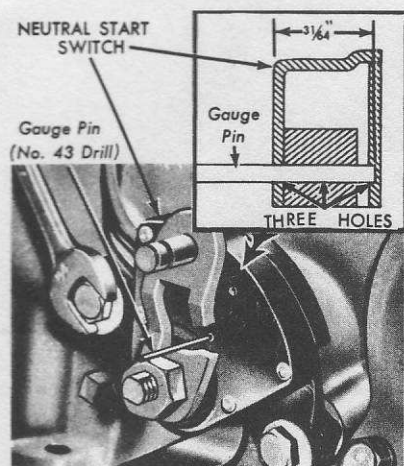

Fig. 6.41 Neutral start switch adjustment (C4 and C6 transmission) (Sec. 33)
- 2 With the transmission selector lever in **N** (neutral) position, rotate the switch and install a No 43 drill into the gauge pin holes. It must be inserted a full 0.48 in (12.30 mm) into the three holes of the switch (see Fig. 6.41).